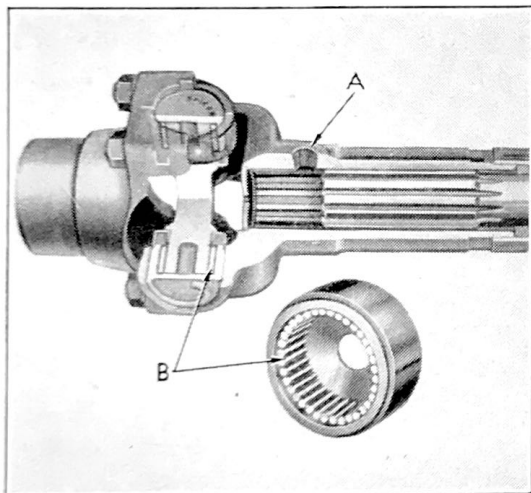

Figure 33
Propeller shafts employ the needle roller bearing type universal joints as illustrated in Fig. 33. The bearings (B) are packed with lubricant at the time of assembly and require lubrication only at periods of 20,000 miles.